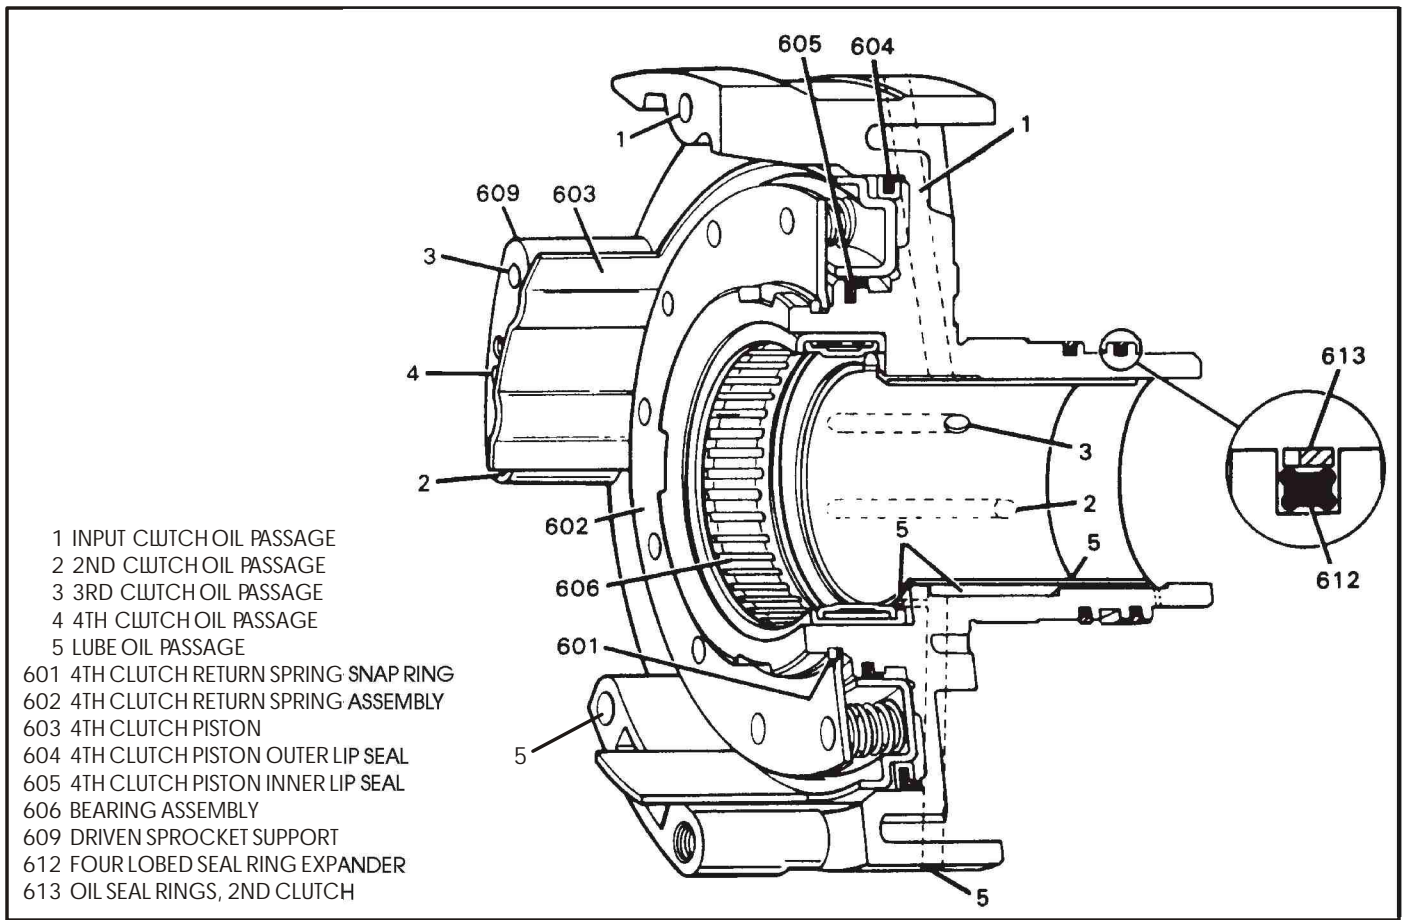

Figure 124
5. Remove and discard the 2nd clutch seal rings and the 4 lobe rubber expanders below them. Refer to Figure 124.
6. Install new 4 lobe seals into the grooves on the driven sprocket support, using care so as not to twist the 4 lobe seals during the installation, as shown in Figure 124.
7. Install the 2nd clutch "Peak" seal rings into the grooves ensuring that the tabs are engaged into the slots in the support (See Figure 124).